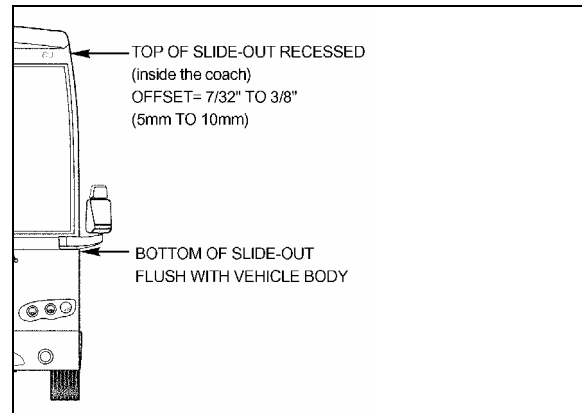

FIGURE 23: TILT ADJUSTMENT
5. Using levelling screw 3, adjust the tilt in order to have the top of the slide-out recessed between 5mm and 10mm (7/32" and 3/8") (see FIGURE 23).